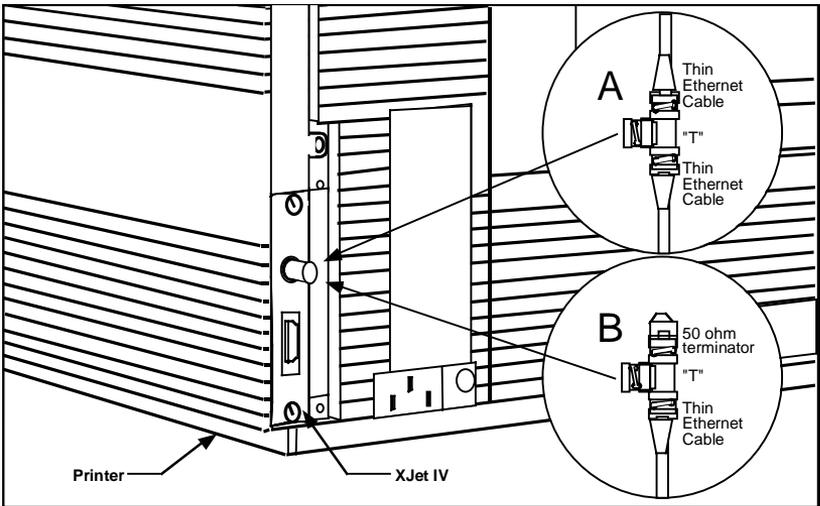

Figure 2-10
1. Connect one section of the thin Ethernet cable to one end of the "T" connector as shown in figure 2-10.